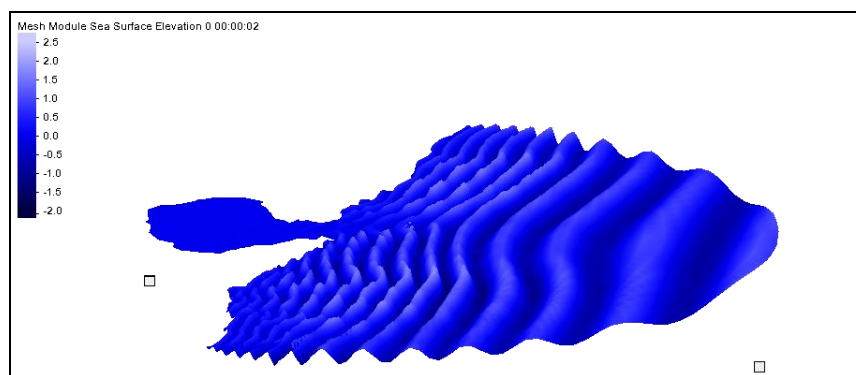

Figure 8 Functional surface showing waves
19. Using the **Rotate**  tool, rotate the mesh so it looks like Figure 8.